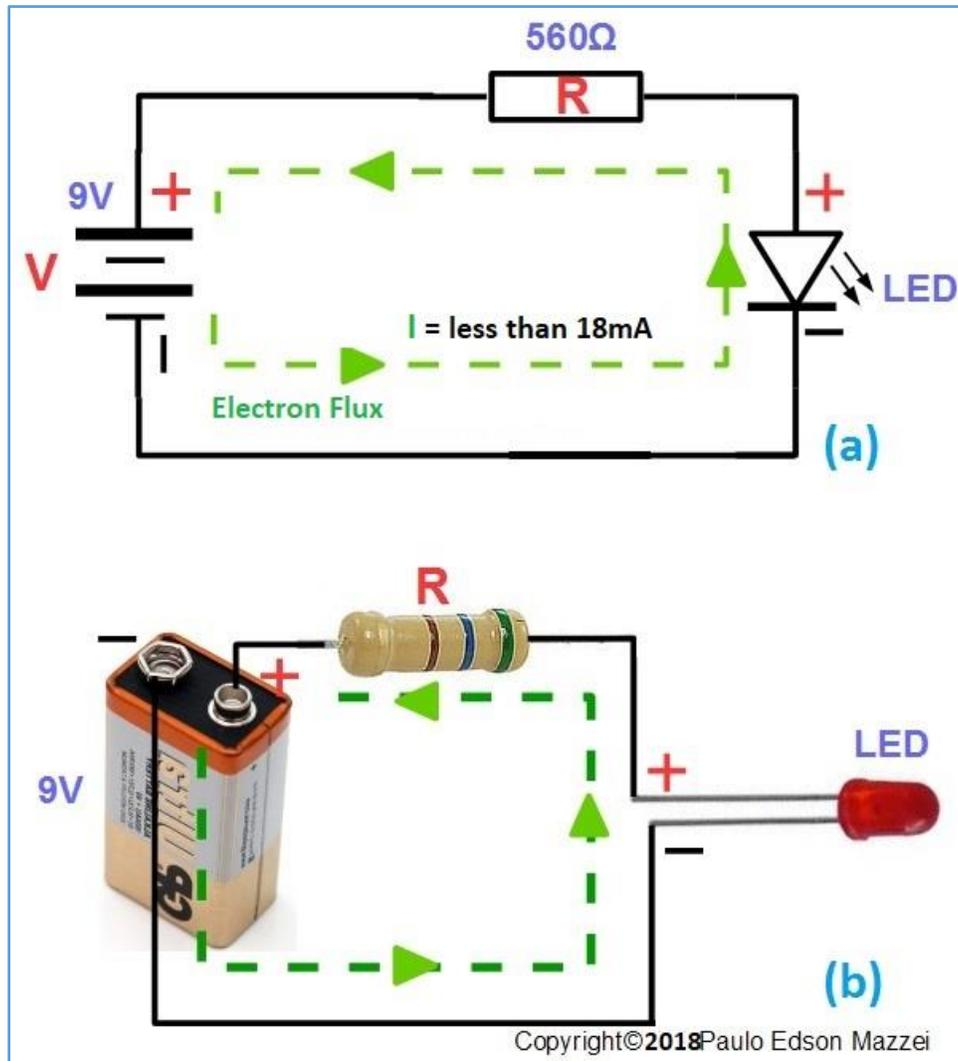
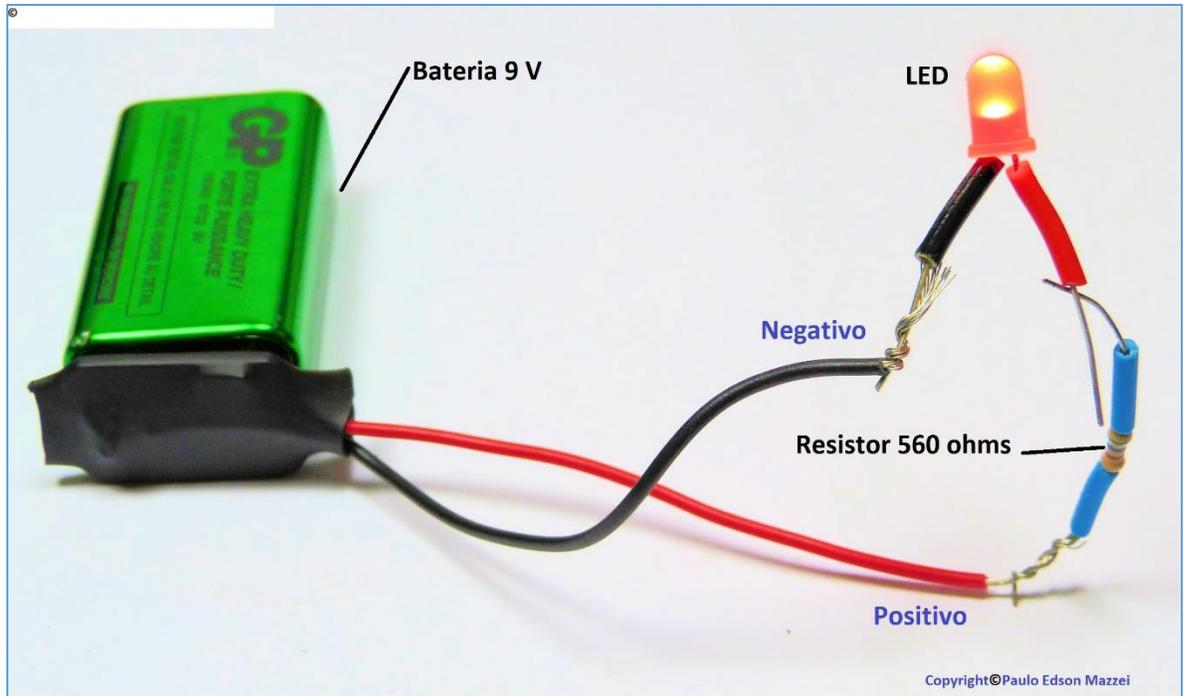

Figure 15 - Schematic diagram of the LED circuit.
Figure 16 -Circuit assembly
- We can draw this circuit, using the electronic graphic symbols, which we will see in more detail later. Each electronic and electrical component has a graphic symbol associated with it, allowing easy drawing of electrical and electronic diagrams rather than using the physical format of these components. See the graphic symbols that we will use in **figure 15**.
Using the basic graphic symbols, we have learned, let's draw our circuit to experience. See **figure 15**.
See **figure 16** as is the circuit assembly of figure 15, only wrapping the thermals together without welding.